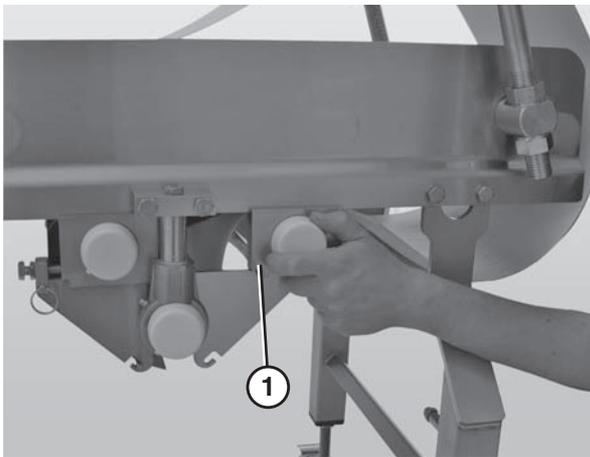

Figure 17
- Slide the tension spindle assembly (Figure 17, item 1) out of the housing.
- Slide the tension spindle assemblies (Figure 17, item 1) back into the housing.